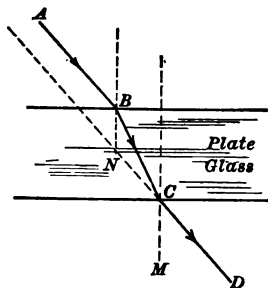

FIG. 413. — Path of ray through plate glass.
**442. Refraction by plate with parallel sides.** When a ray of light ( $AB$ , in figure 413) passes through a glass plate with parallel faces, such as a good window pane, it is refracted at  $B$  towards the normal  $N$ , and at  $C$  away from the normal  $M$ . The result is that the ray  $CD$  is parallel to the ray  $AB$ . Consequently when we look at